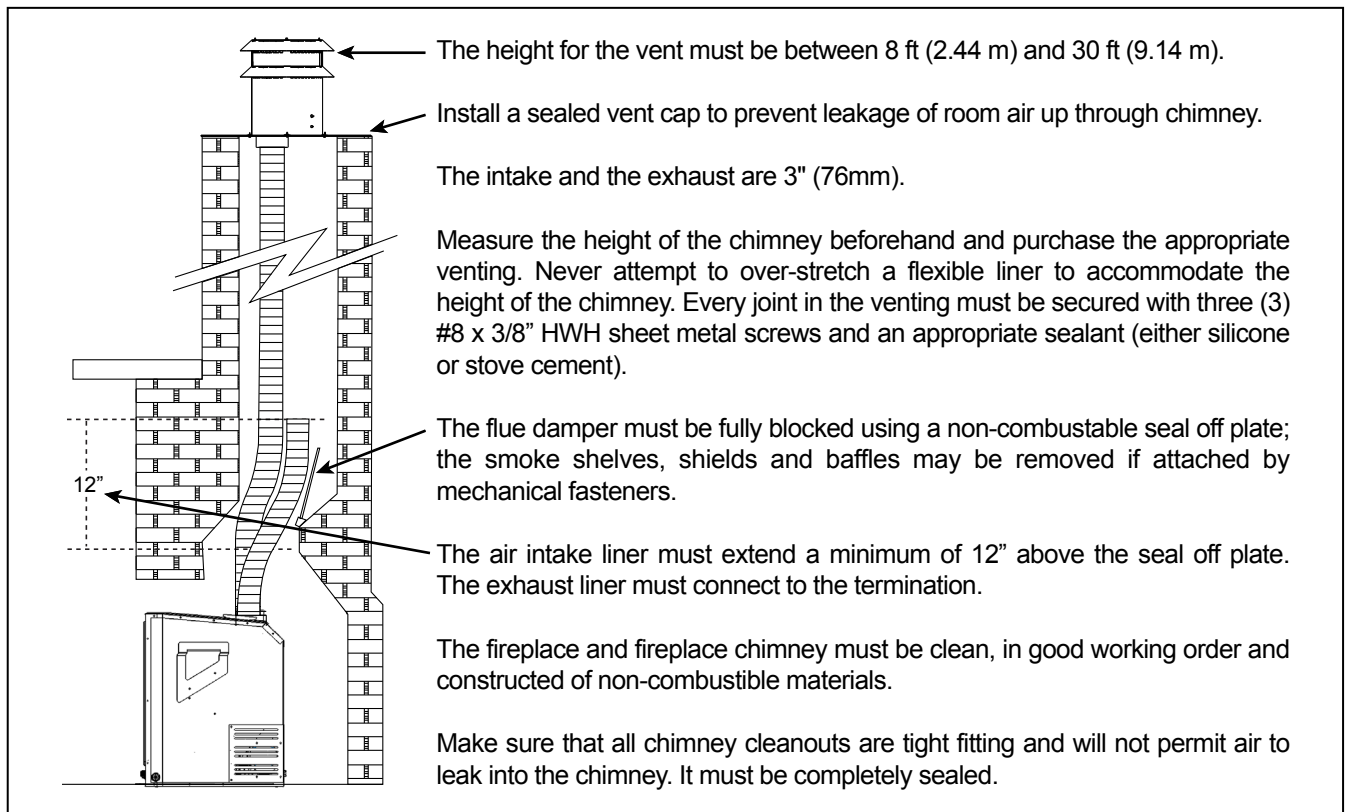

Figure 19: Installation of E30 DV .
1. Plan your installation and clearances to combustibles. The E30 may be installed and vented into any solid fuel fireplace that has been installed in accordance with the National, Provincial/State and local building codes and has been constructed of non-combustible materials. Also refer to the INITIAL INSTALLATION - PREPARING YOUR E30 FOR INSTALLATION and CLEARANCES TO COMBUSTIBLES sections. Refer to Figure 19 throughout installation.